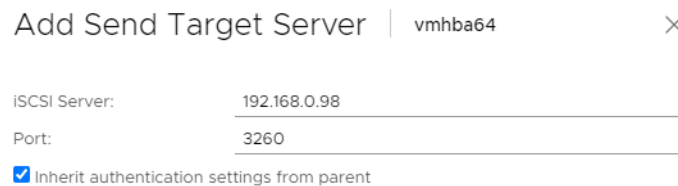

Figure 10-11. Adding Send Target Information
4. Add the send target information (Figure 10-11).